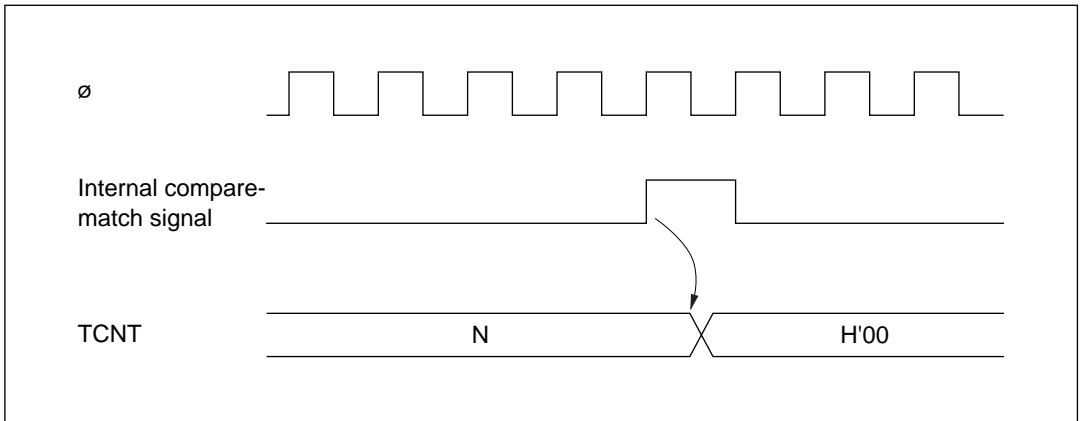

Figure 9-6 Timing of Compare-Match Clear
(3) **Timing of Compare-Match Clear:** Depending on the CCLR1 and CCLR0 bits in TCR, the timer counter can be cleared when compare-match A or B occurs. Figure 9-6 shows the timing of this operation.